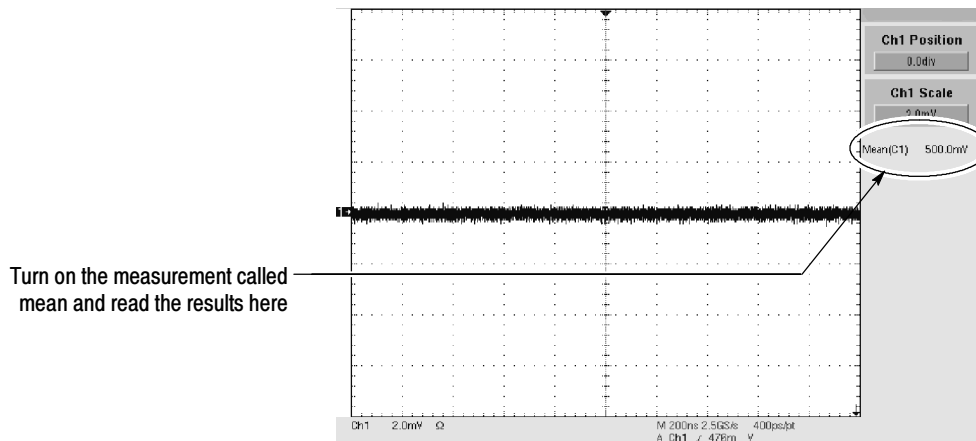

Figure 4-11: Measurement of offset accuracy
- e. *Measure the test signal:* Press **Close**. Read the measurement results at the **Mean** measurement readout. See Figure 4-11.